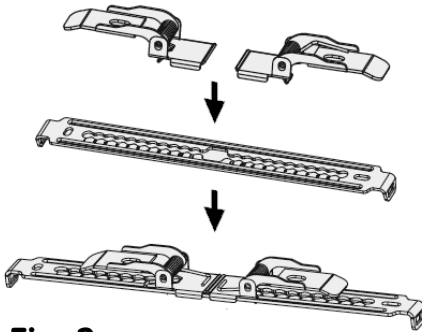

Fig. 2
- Insert the springs into the bracket and slide to the required position according to the size of the cut-out (see Fig. 2)